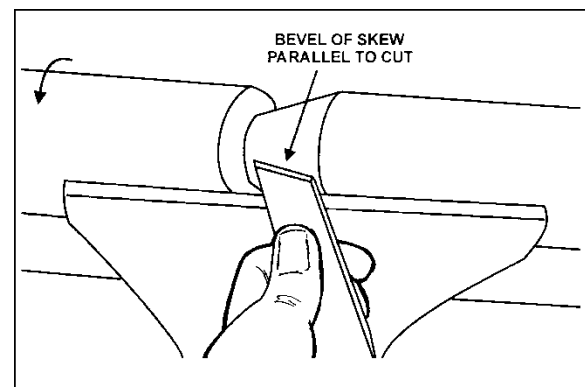

Figure 24
- With the bevel parallel to the right side of the cut, raise the handle and push the tool in to the desired depth, as shown in Figure 24.